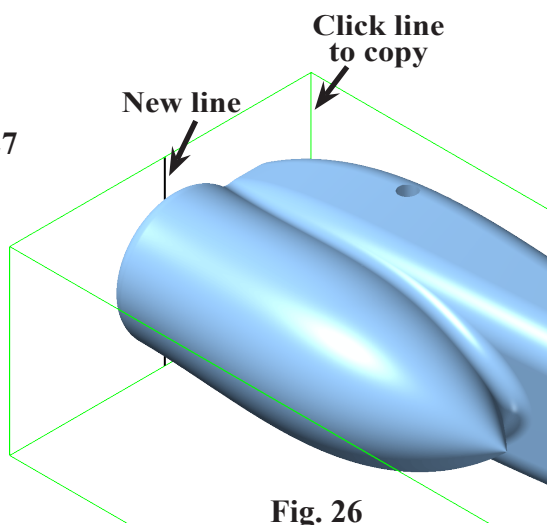

Fig. 26
Step 1. Click the **back rear vertical line** of the wireframe, Fig. 26.